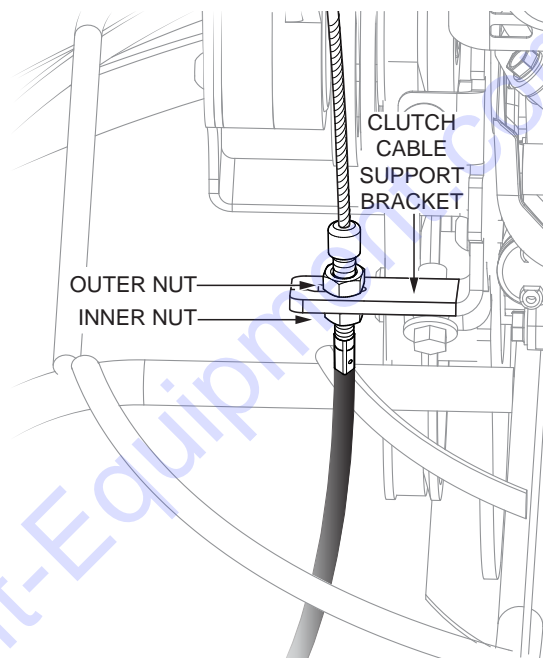

Figure 20. Secure Clutch Cable To Support Bracket
- Tighten the inner nut against the clutch cable support bracket until there is no slack in the cable between the threaded cable end and the clutch cable spring (Figure 20).
- Using two 1/2" wrenches, tighten the inner nut and the outer nut securely against the clutch cable support bracket (Figure 20).